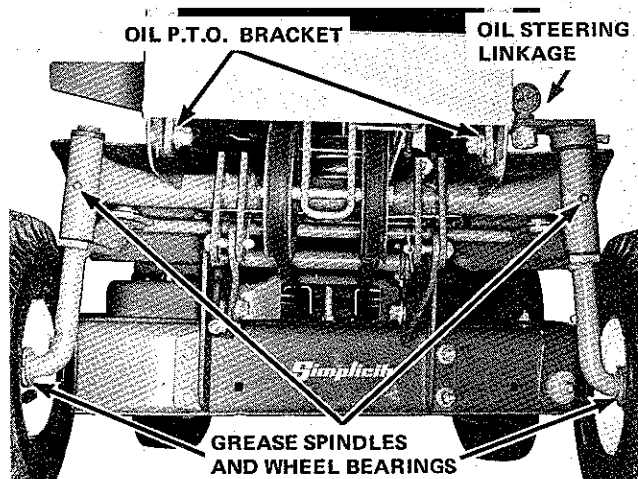

FIGURE 21
4. General Lubrication: The five grease fittings on your tractor should be greased with a lithium base automotive type grease. Remove all dirt, grit and paint from the fitting before greasing. A few drops of engine oil should be applied to the points indicated. Do not allow oil to get on belts or pulleys. (See Figures 21, 22 & 23).